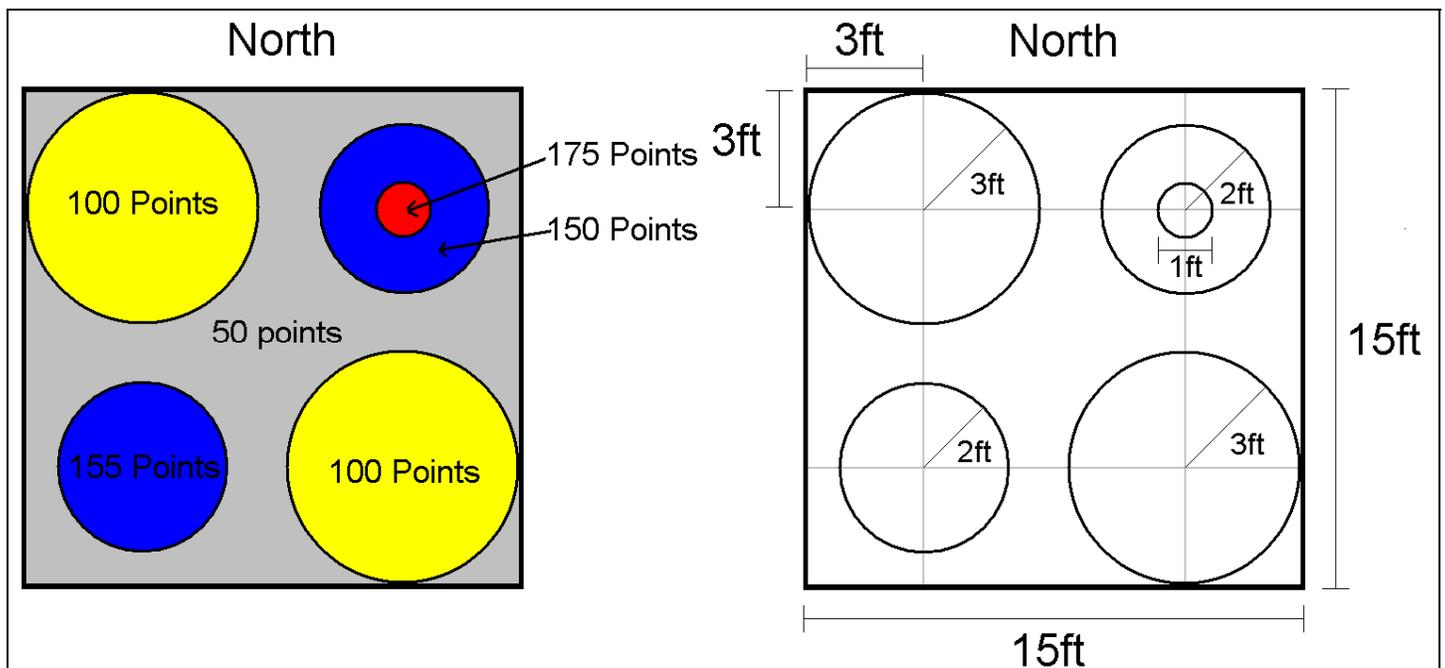

Figure 3: Target area point values and dimensions
- The location where the part of the contraption with the egg in it first lands in each round, denoted as S_1 for the score of the first round and S_2 for the score of the second round (see Figure 3)